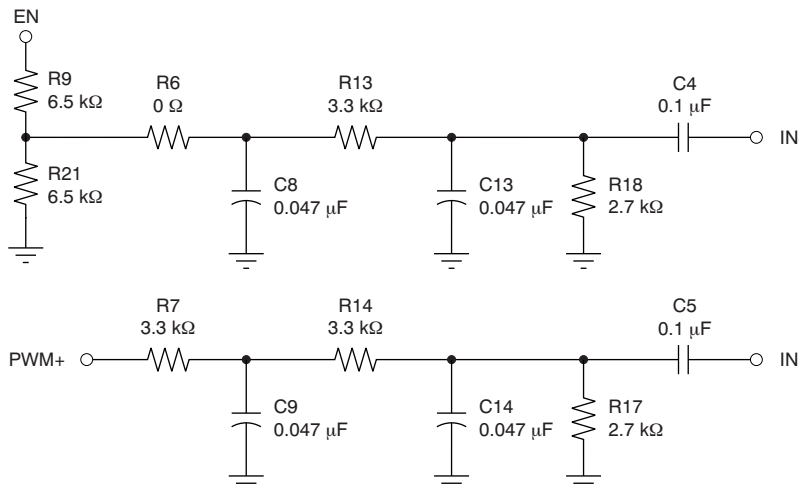

Figure 14. Single-Ended Input with Dummy Filter
To avoid this issue, a *dummy filter* may be connected to the unused input; the filter input should then be tied to the DRV8662 enable (EN) signal through a resistor divider, as seen in Figure 14. When the DRV8662 is enabled, the enable (EN) signal charges this dummy filter.
The dummy filter shown in Figure 14 has the same settling time as the active filter; therefore, the offset is cancelled and the issue is avoided.